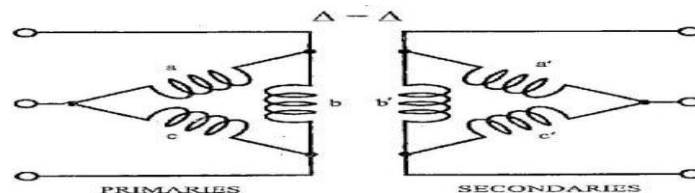

Figure 3.3. Delta – Delta (Δ - Δ)
- The circuit shown in Figure 3.3 has three transformers connected in a delta- delta configuration.